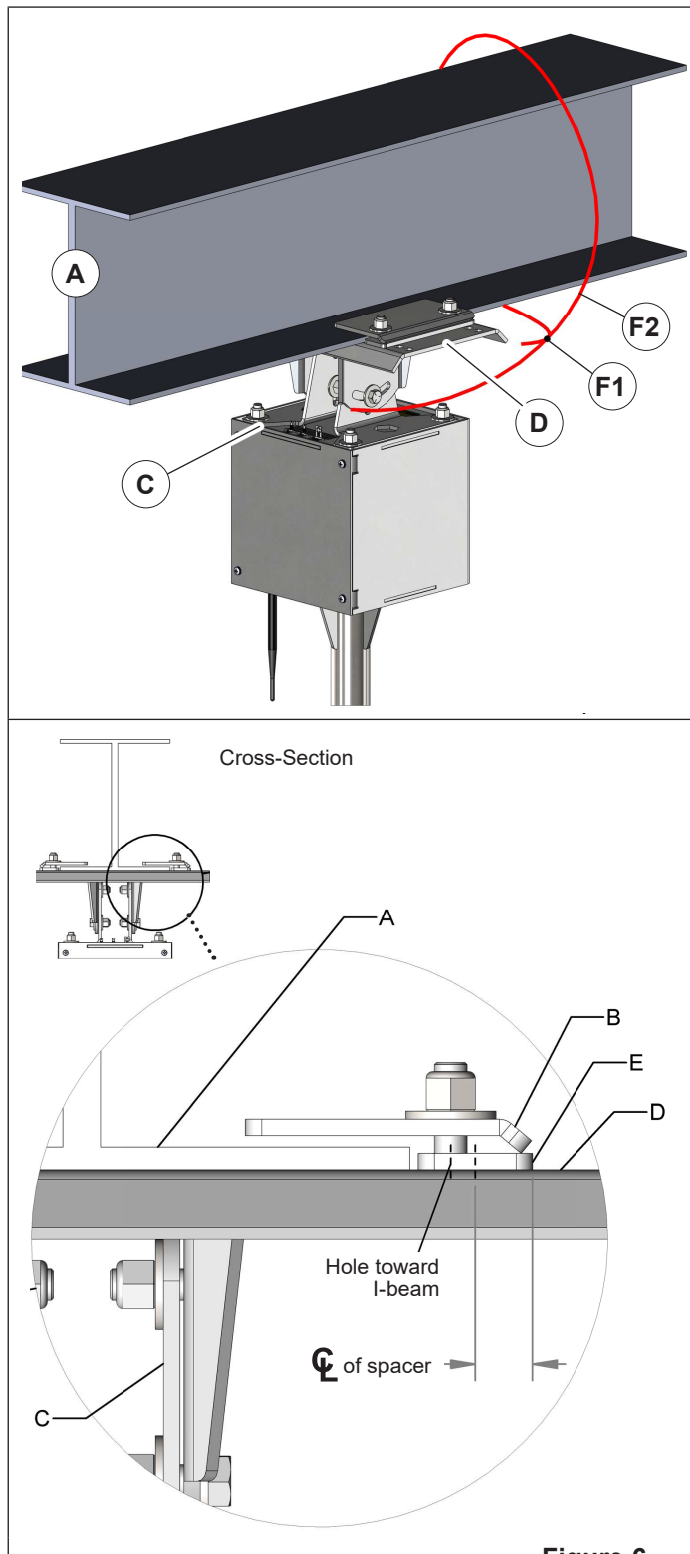

Figure 6
2. Hang the I-beam bracket (D) under the I-beam using provided hardware and existing holes to attach clamp plates (B) and the spacers (E). Keep spacer holes toward the edge of I-beam (Figure 6).
3. Attach the enclosure brackets (C) to the I-beam bracket (D) using (4) 1/2in x 1.5in bolts, washers and nylon lock nuts.